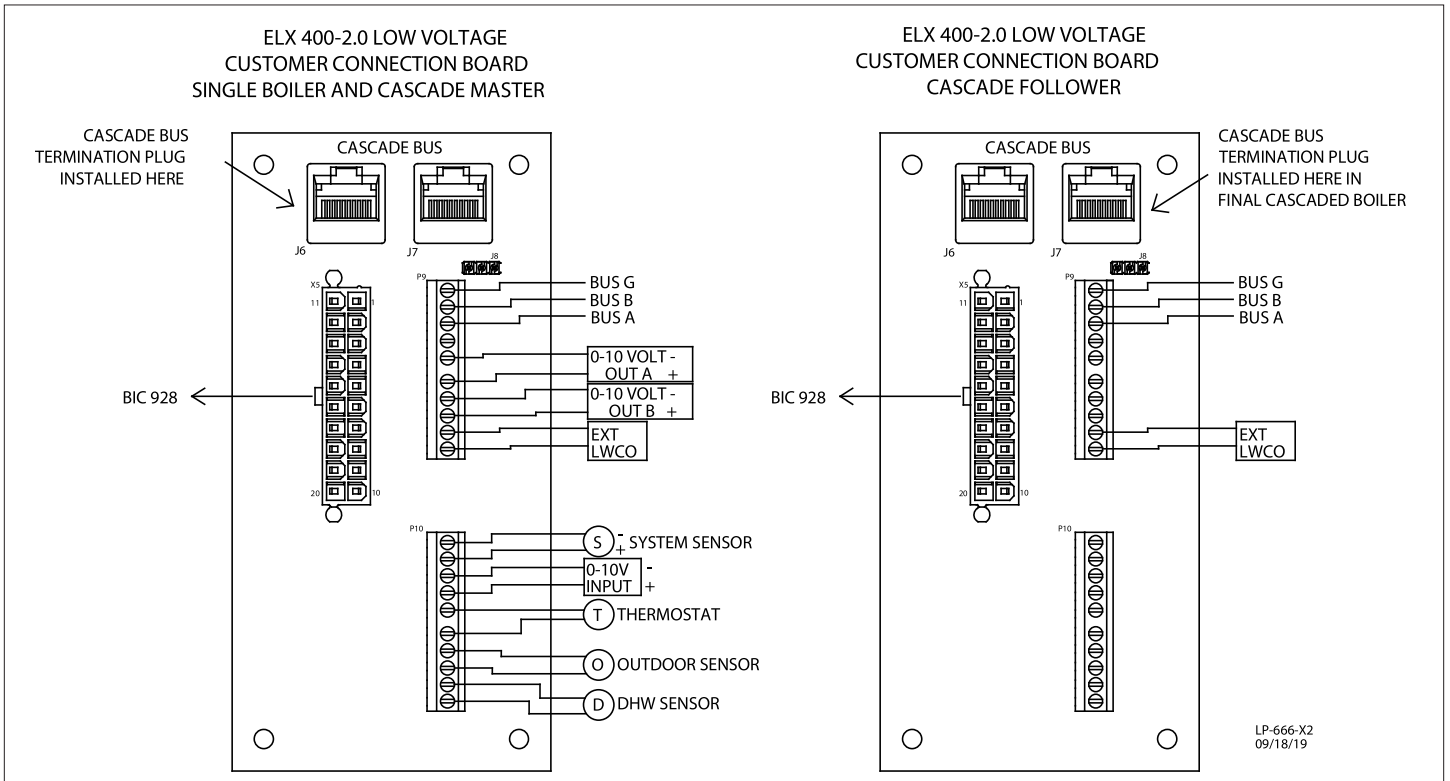

Figure 40 - Cascade Master and Single Boiler Low Voltage Wiring, and Cascade Follower Low Voltage Wiring
NOTE: Shielded three-conductor cable may be used as an alternate method to connect cascade wiring. Connect the three wires of the shielded cable to the screw terminals labelled BUS A, BUS B, and BUS G. Observe proper polarity across all cascaded units. See Figure 40.
2. Connect a building management system or other auxiliary control signal to the terminals marked 0-10V+ and 0-10V- on the Field Connection Board (shown in Figure 40). Caution should be used to ensure that the 0-10V+ connection does not become connected to ground.